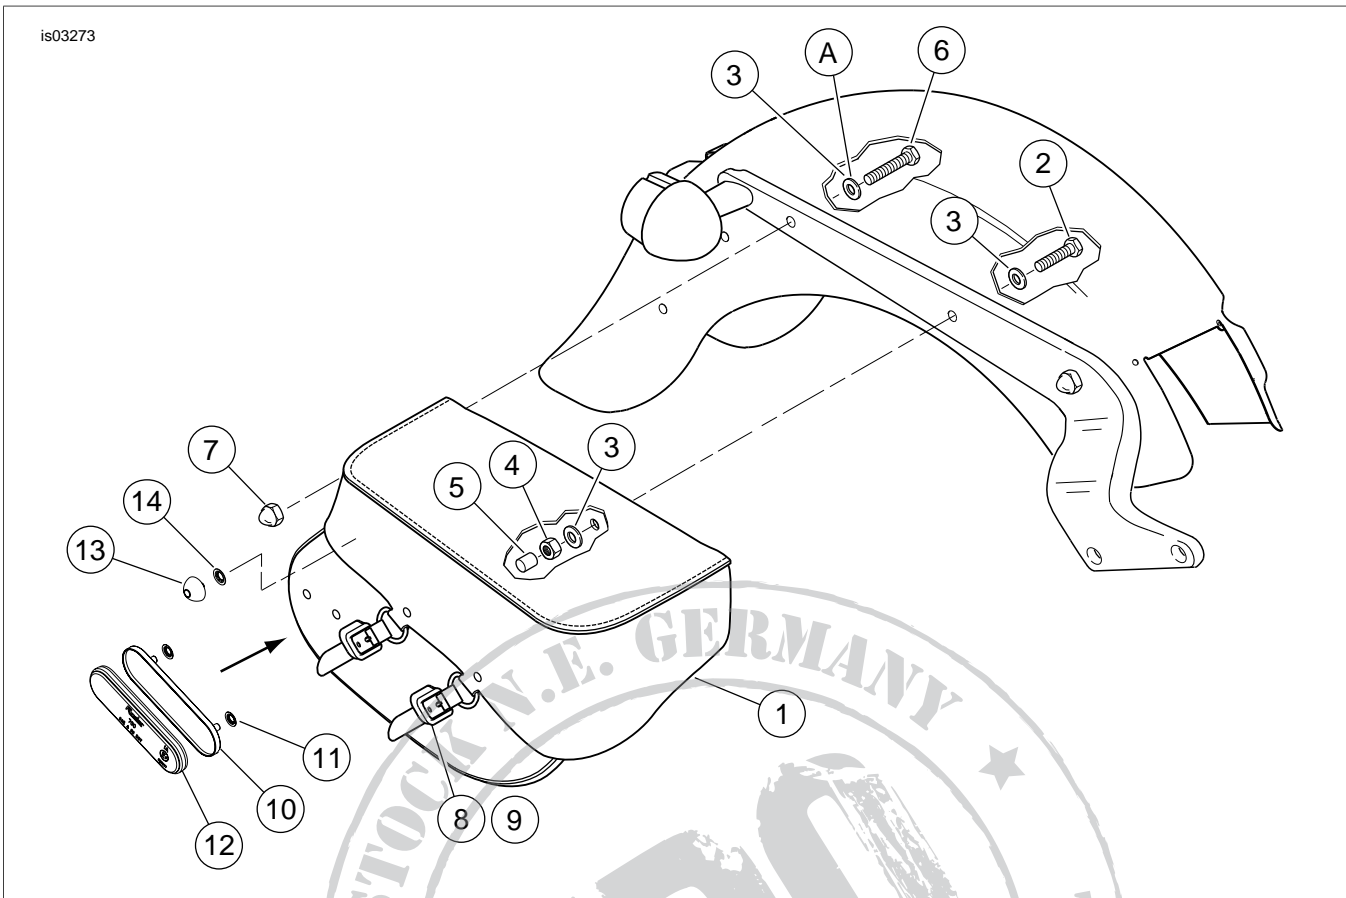

Figure 6. Softtail Saddlebag Kits (Installation Shown on 2000-2002 FLST and 1984-1999 FLSTF, FXST Models)
5. See Figure 5 and Figure 6. Slip the thread protector (5) over the end of front screw (2).